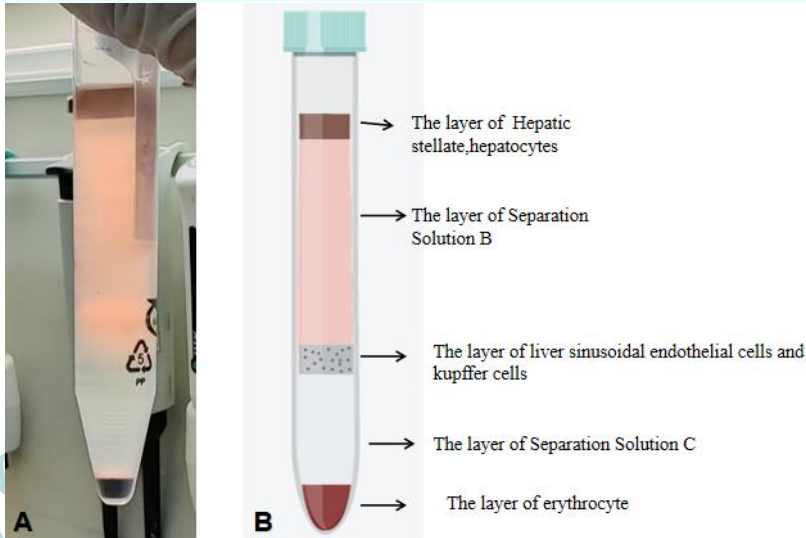

Figure 4. Reference image of cell suspension after centrifugation with Separation solution
- (6) After stratification, centrifuge tube at 900 g for 15 minutes (set the acceleration to 1 and the decelerate to 0); After centrifugation, the liquid can be seen to be divided into 5 layers, from top to bottom: the top layer is approximately 2-5 mm thick hepatic stellate cells and hepatocytes layer, the second layer is approximately 6 mL Separation solution B, the third one is approximately 2-3 mm thick, liver sinusoidal endothelial and kupffer mixed cells (hereinafter referred to as the white membrane layer), the fourth is approximately 3 mL Separation solution C, and the bottom layer is approximately 2-5 mm thick red blood cell precipitation (as shown in Figure 4).
- (7) Discard the top layer of cells and use a 1 mL pipette tip above the white membrane layer. Carefully remove the cells from the third layer of white membrane layer into a new sterile 15 mL centrifuge tube, add 5 mL of **Specialized Washing Solution For Mouse Kupffer Cells** to resuspend the cell suspension, centrifuge at 400 g for 5 min, discard the supernatant, and retain the precipitate.
- (8) Resuspend 5 mL of **Complete Culture Medium for Mouse Kupffer Cells** and seeding it into a new 6 cm culture dish.
- (9) Incubate in a 5% CO₂ incubator at 37°C for 25 minutes, then transfer the supernatant to a new culture dish. Add 5 mL of fresh **Complete Culture Medium for Mouse Kupffer Cells** to the original culture dish and continue culturing at 37°C for 25 minutes.
- (10) Transfer the transferred supernatant again to a new dish, add fresh complete culture medium to the original dish, and repeat this transfer process 1-2 times.
- (11) After differential adhesion, most of the kupffer cells exist in the dish seeded in step 8, while the rest of the dishes only have a small or partial amount of kupffer cells, which can be selected according to the specific cell purity and cell quantity.
- (12) After 48 hours of cultivation, collect the target cells and rapidly digest them with 0.25% trypsin for about 1 minute. Discard the first digested cells, which may contain loosely adherent liver sinusoidal endothelial cells.